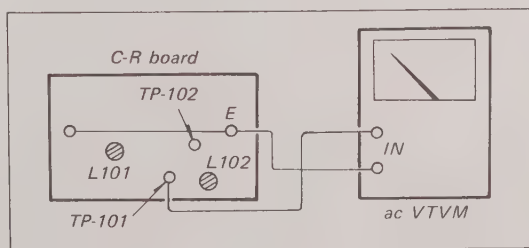

Fig. 9-6. Audio dub bias trap adjustment test setup
4. Transfer the input lead of VTVM or oscilloscope to TP-101 and TP-102 (See Fig. 9-6) on the C-R board, and then set up the AUDIO DUB mode by using a blank cassette.
5. Adjust the L101 and L102 (See Fig. 9-6) for a minimum reading at TP-101 and TP-102 respectively.